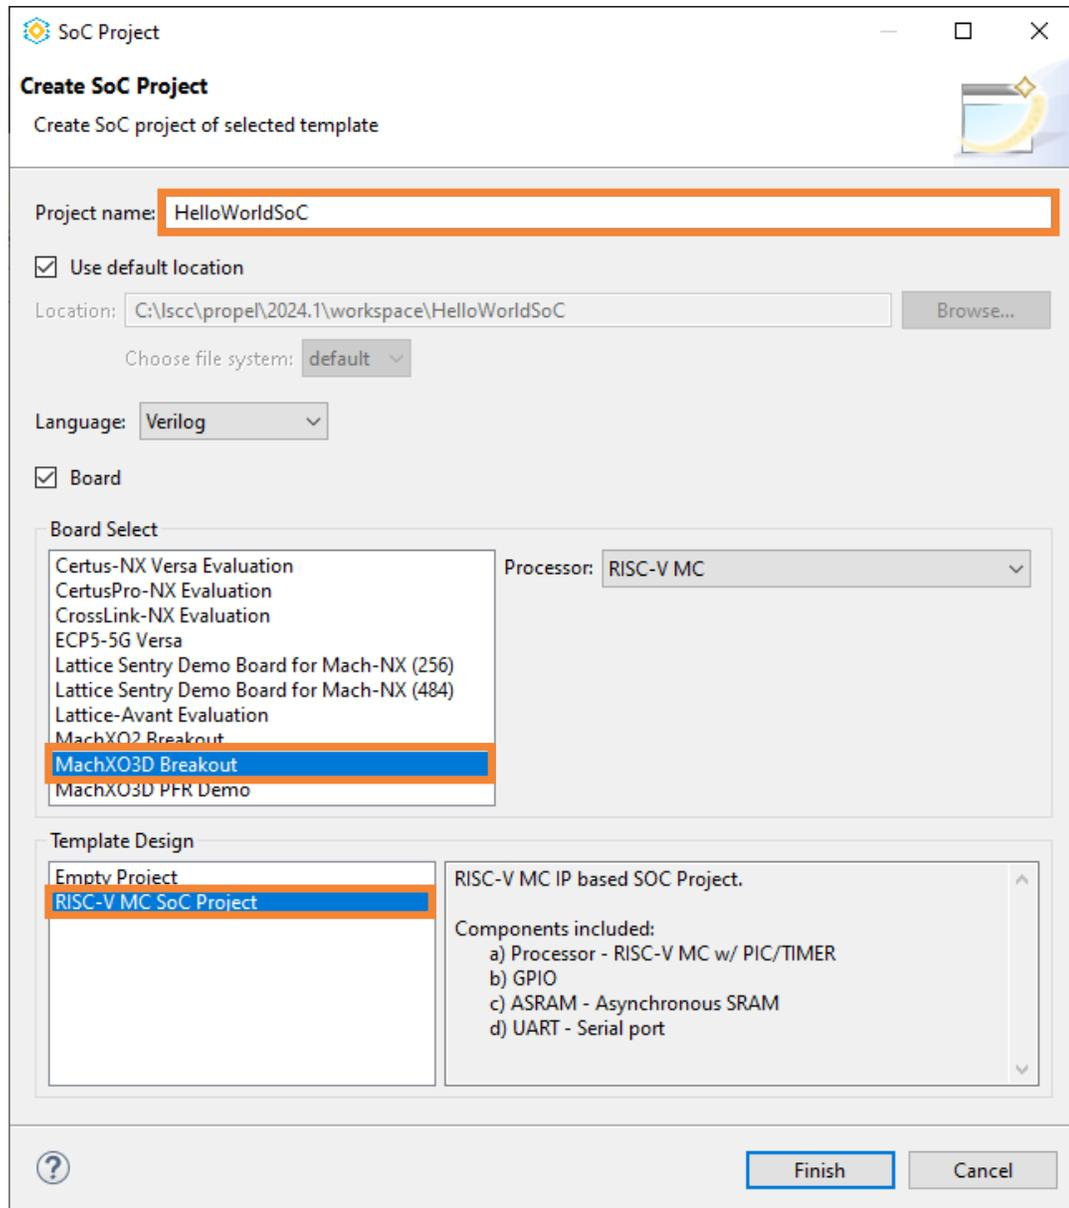

Figure 4.3. Create SoC Project Wizard
- The **Create SoC Project** wizard opens (Figure 4.3). Enter a project name, such as **HelloWorldSoC**. Select the **RISC-V MC SoC Project** template.